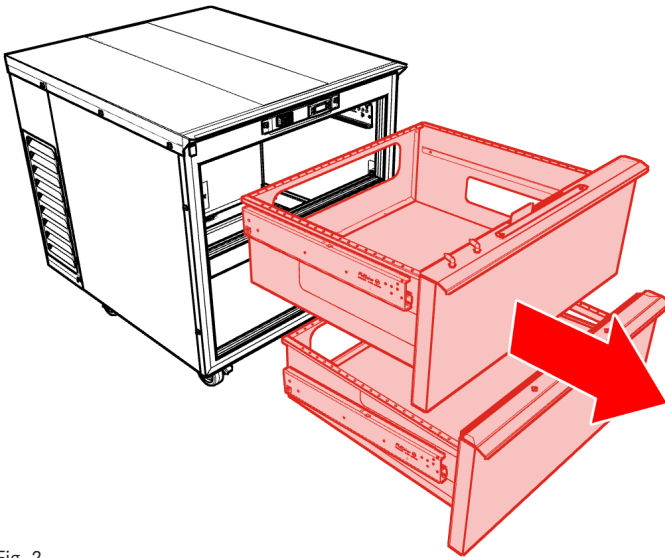
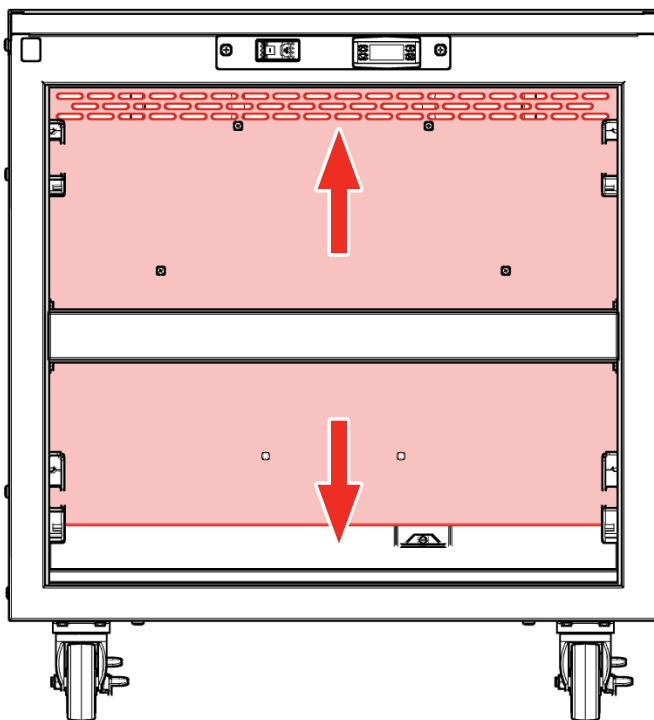

Fig. 2
Fig. 3
3. Remove drawers (Fig. 2) (See *Drawer Removal*, page 6) and inspect to ensure fans and air return holes are clear (Fig. 3).